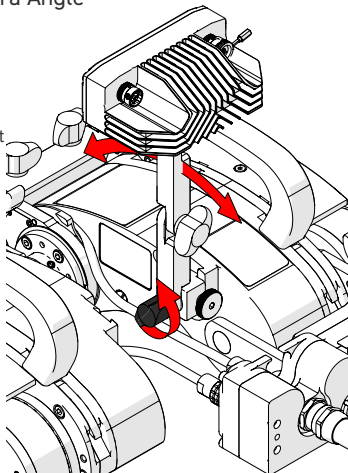

Fig. 22 - Adjust the camera bracket angle
1. Loosen the wing knob at the bottom of the bracket to adjust the camera bracket angle (Fig. 22).